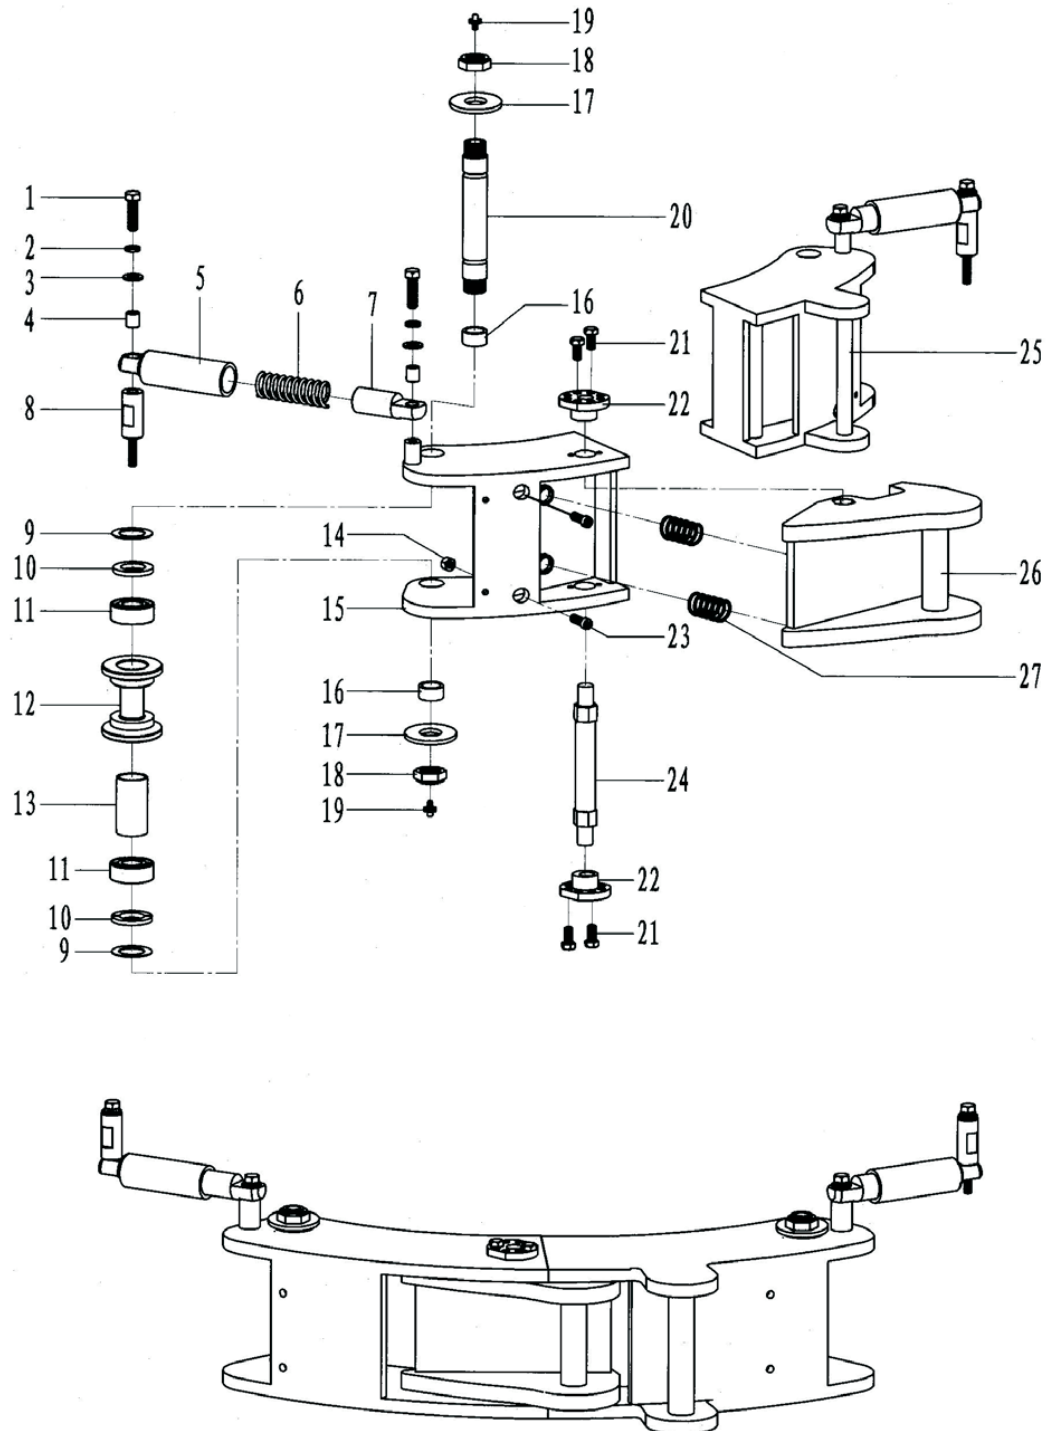

Fig.13
7.11 Assembly of Safety door (Fig 13, Table 13)